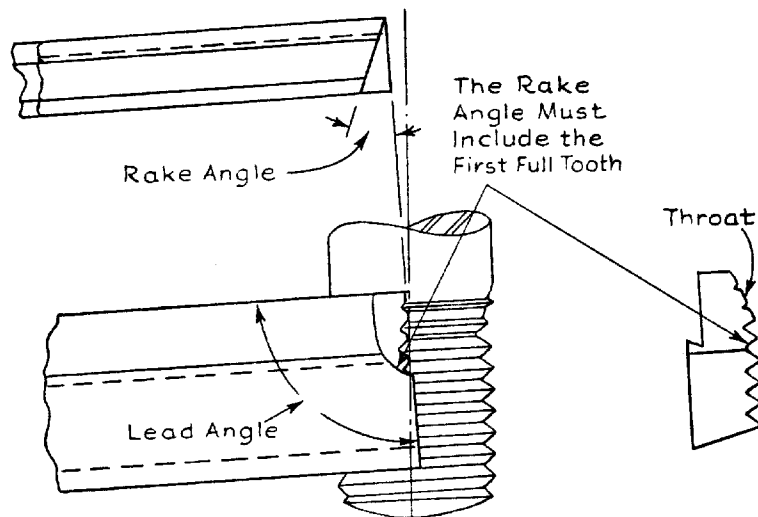

Figure 13—Chaser grind for cutting straight threads cut without lead screw feed
1. Grind the lead angle on the cutting end of the chaser as in figure 13. This grind is often referred to as a "lip rake" grind. For U. N. (N. C., Whitworth and S. I.) Standard Threads, the lead angle is 90°. For U. N. F. (N. F.) and B. S. F. Standard Threads the lead angle is 90° for chasers of 11 pitch and coarser, and 92° for chasers of 12 pitch and finer.